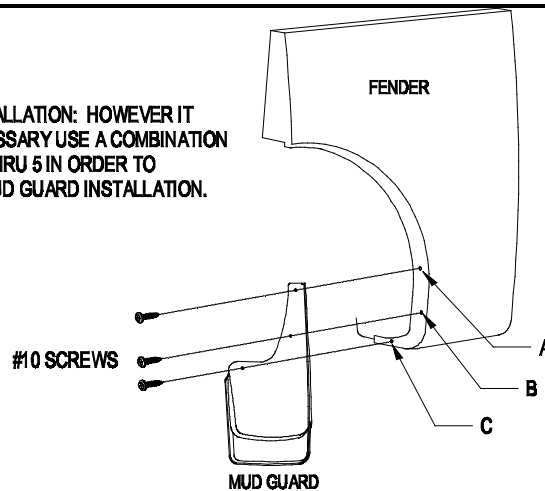

Figure 1
4. **If some or all holes need to be drilled into fender:** (Figure 1) Align mud guard, mark and drill 1/8" hole (approx 1/4" from top of mud guard where possible) and attach mud guard to fender with a #10 screw. Make sure mud guard is level to ground before tightening. With mud guard in place, mark and drill remaining holes and fasten with #10 screws. Space mounting holes evenly to insure maximum support of mud guard.